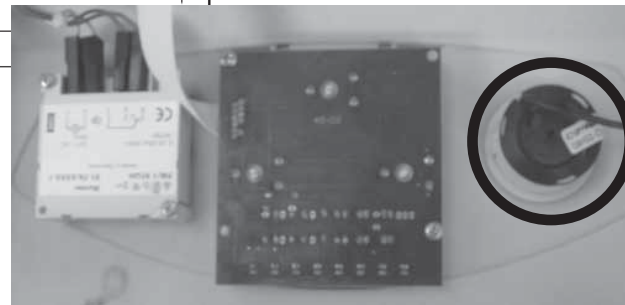

Figure 51
- ❑ Remove the pressure gauge unit from the interface panel. (figure 51)